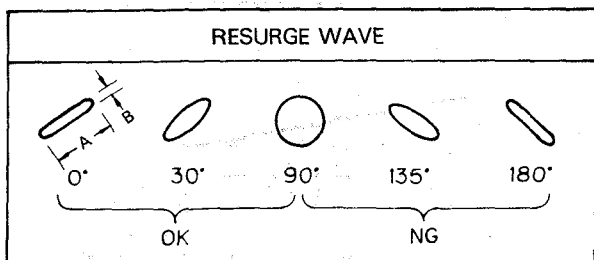

Fig. 2-2
- (2) Playback the test tape; adjust the azimuth screw so that section A of the resurge wave form is maximum and section B is minimum. **Fig. 2-2,3**